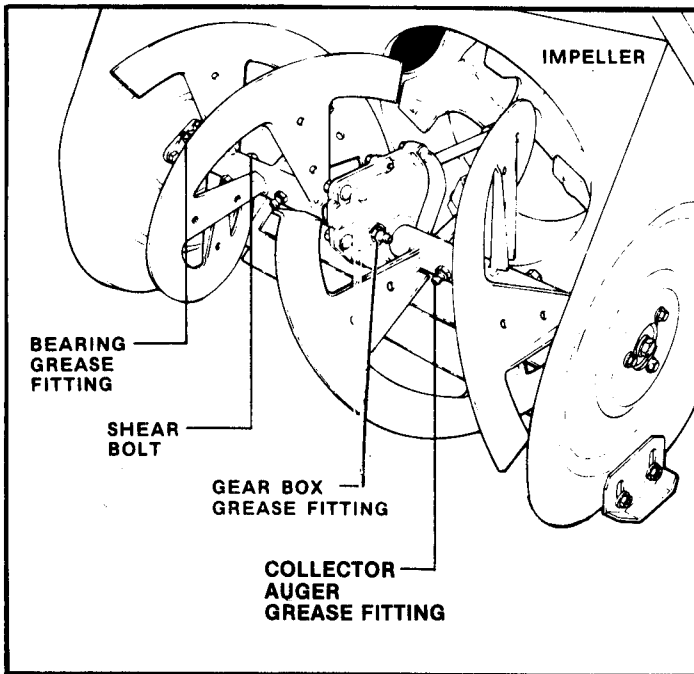

FIGURE 3.1
Refer to the Engine Manual for lubrication requirements on the engine powering your SNOW THROWER. Your SNOW THROWER unit has five (5) grease fittings, two (2) on the augers, one (1) in the gearbox housing and two (2) on the auger shaft bearings as shown in Figure 3.1. Service these and the other general lube points as follows:
AUGER LUBRICATION: ONCE EACH YEAR, preferably at the end of the winter season, remove the two (2) shear bolts, apply grease to the fittings, then spin the auger to work the grease out along the auger shaft. Continue greasing and spinning augers until grease appears at both ends of each auger tube. Reinstall shear bolts and nuts after servicing. This procedure will prevent the auger shaft from rusting to the auger tube. Refer to FIG. 3.1.
BEARING LUBE: ONCE EACH YEAR, apply one or two shots of grease from gun to the bearing grease fittings located at the ends of the auger shaft, just inside blower housings. Refer to FIG. 3.1.
GEARBOX LUBRICATION: Grease the gearbox ONCE EACH YEAR, or more often as required, with 5 shots of SNAPPER "OO" grease. Refer to FIG. 3.1. "OO" grease is available from your SNAPPER Dealer in handy squeeze containers.